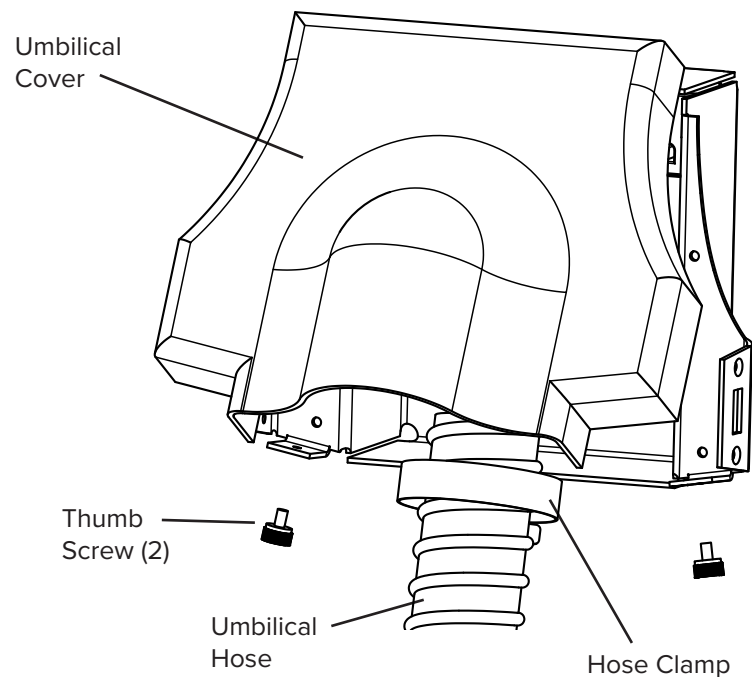

Fig 10.11
1. Securely attach umbilical hose to chassis with hose clamp. See Fig 10.11. When in place, rotate clamp nut towards back of tab.